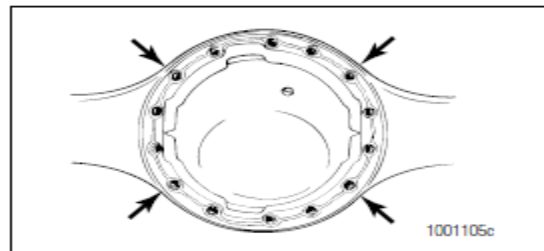

Figure 5.82
7. Install nuts and washers or capscrews and washers, if equipped, into the four corner locations around the carrier and axle housing. Hand-tighten the fasteners. Figure 5.82.
8. Carefully push the carrier into position. Tighten the four fasteners two or three turns each in a pattern opposite each other. Figure 5.82.